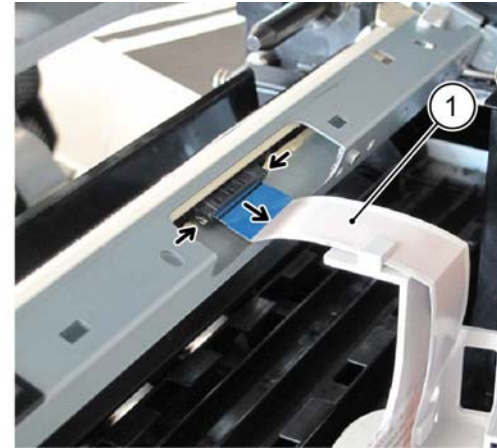

Figure 4 FFC cable
6. Release the catches in the direction of the arrows, then disconnect the FFC cable (1), Figure 4.